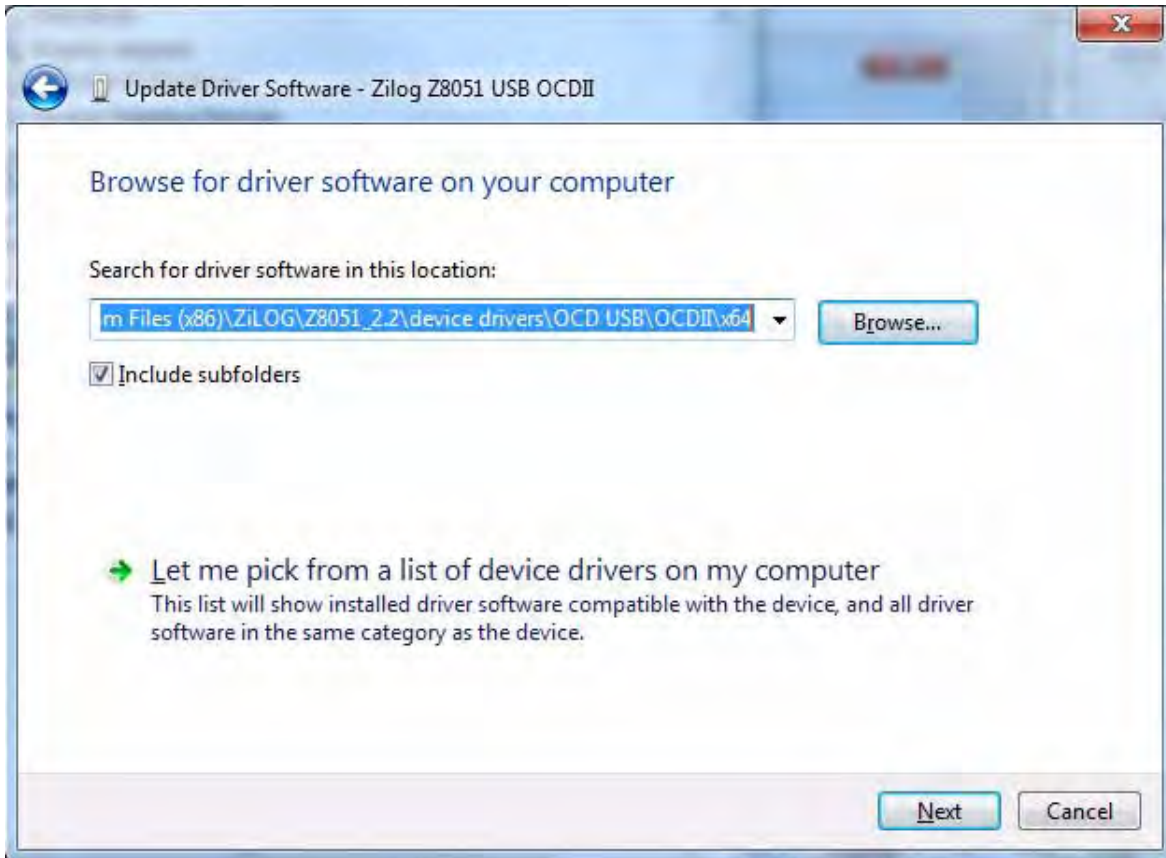

Figure 4. The Browse For Driver Dialog
3. Select **Browse my computer for driver software (advanced)** to display the dialog shown in Figure 4, which prompts you to key in or browse for the location of the .inf file. Depending on the type of computer you use (32-bit or 64-bit), use the **Browse** button to navigate to one of the following paths, then click the **Next** button.